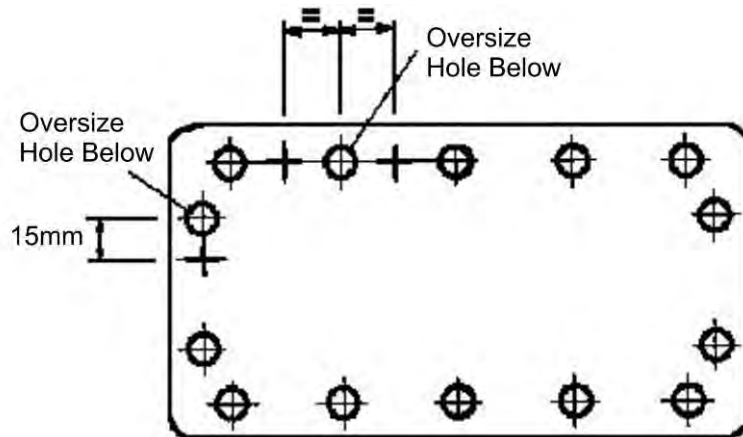

Figure 1: Locations for Remedial Drilling
8. Align new tapping plate (see Materials item 1) on the door such that non oversize holes are concentric with the holes in the new plate. Check that the orientation of the tapping plate is as noted.
9. Drill holes 6.6 to 6.8mm diameter through the plate and door frame at all unmarked (i.e. not oversize) hole positions. The relevant number and position(s) of holes to be as shown in Figure 1.